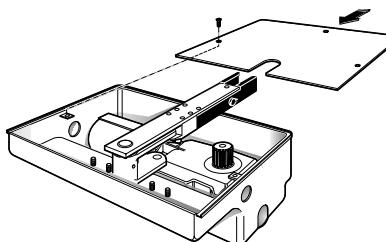

Fig. 15
4) Fasten the box cover by means of the screws supplied (fig. 15).